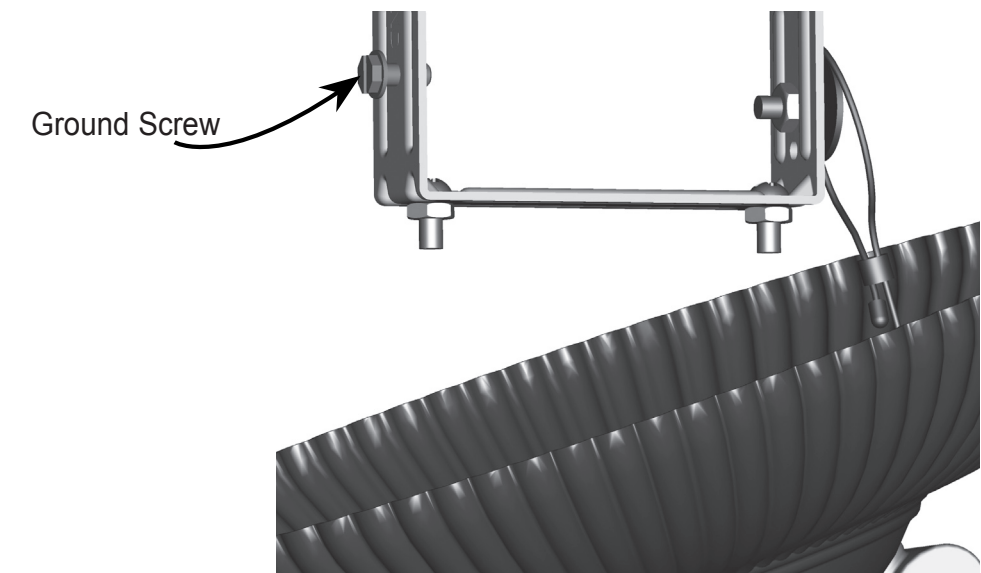

Figure 7 - Ground Screw
- 4) Use UL-approved wire connectors to connect the wires, black-to-black, white-to-white. Loop the ground wires around the Ground Screw, then tighten the Ground Screw. See Figure 7.